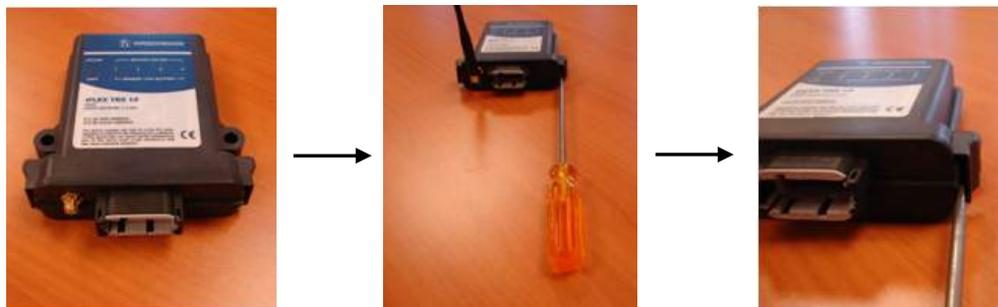

Figure 8: Steps for Removing TRS 10 Cover
2. Next, remove the cover of the TRS 10 by pushing in the two tabs located on each side of the casing, as pictured below in Figure 8.